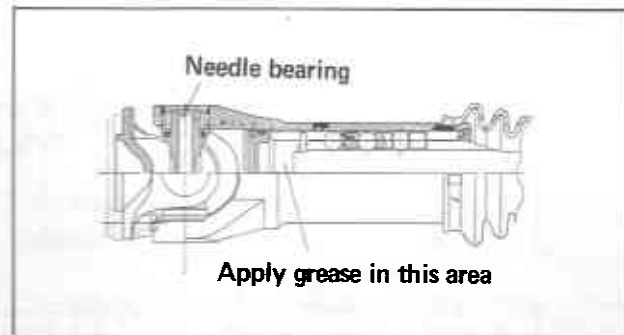

Fig. RA-23 Sectional view of drive shaft
3. Apply an adequate quantity of multipurpose grease to the ball rolling groove and oil groove, approximately 10 g, (0.35 oz). In addition apply 35 g (1.23 oz) of grease to the area shown in figure RA-23.